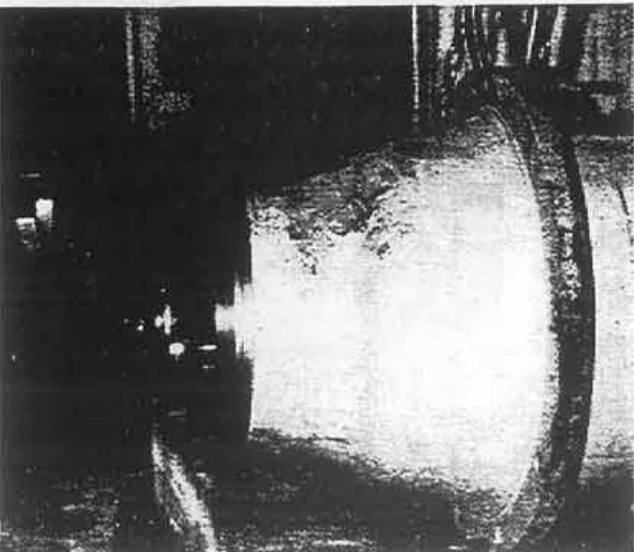

Figure 7:
7. Apply a light even coat of RTV sealant to the OD of the NOK seal assembly. Install the seal assembly by hand over the shouldering ring into the bore of the seal case. Carefully install the pusher ring and bridge over the forcing screw and into the seal case against the seal assembly. Install the forcing screw nut and carefully draw the seal assembly into the seal case until bottomed (Fig. 7).